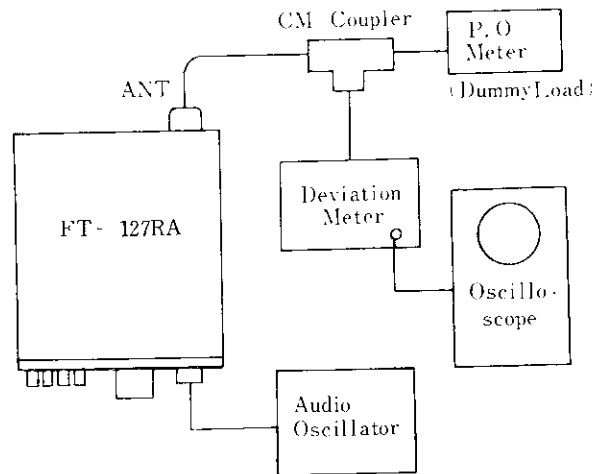

Figure 8.
(1) RF Power Amplifier
(2) PO Meter
(3) AFP (Automatic Final Protection)
(4) Deviation
- (a) Connect a dummy load to the antenna jack, connect the output of an audio oscillator between pin 6 (mic) and pin 5 (gnd) of the microphone jack, and a deviation meter as shown in Figure 8.